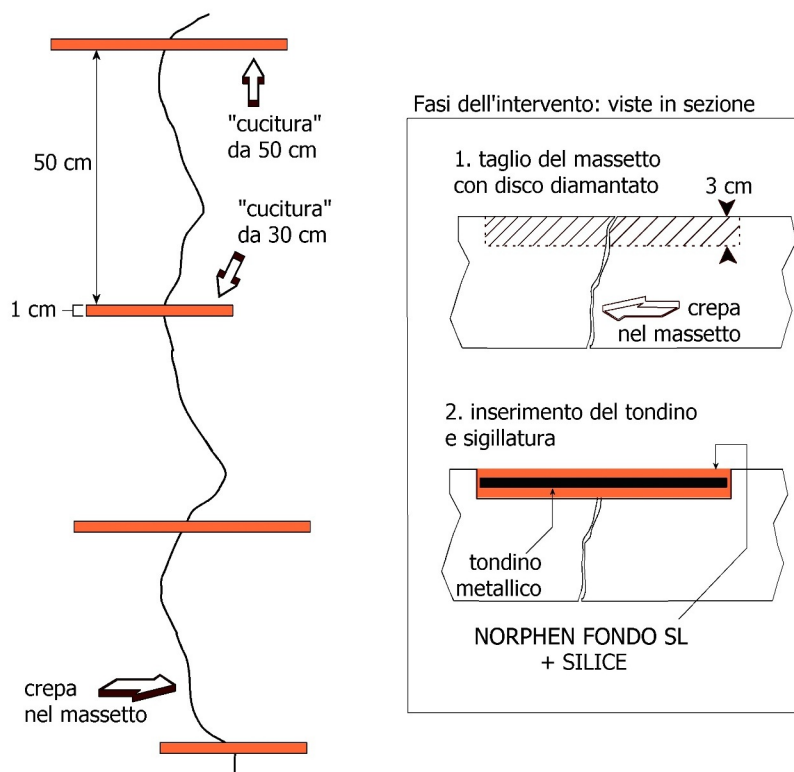

Figure 1: stitching of a MOVING CRACK
- They can be stitched with the same method used for MOVING CRACKS (see relevant paragraph and Figure 1) if they are sufficiently cured for having terminated most of their hygrometric shrinkage (roughly 1 month for screeds and 3 months for concrete).